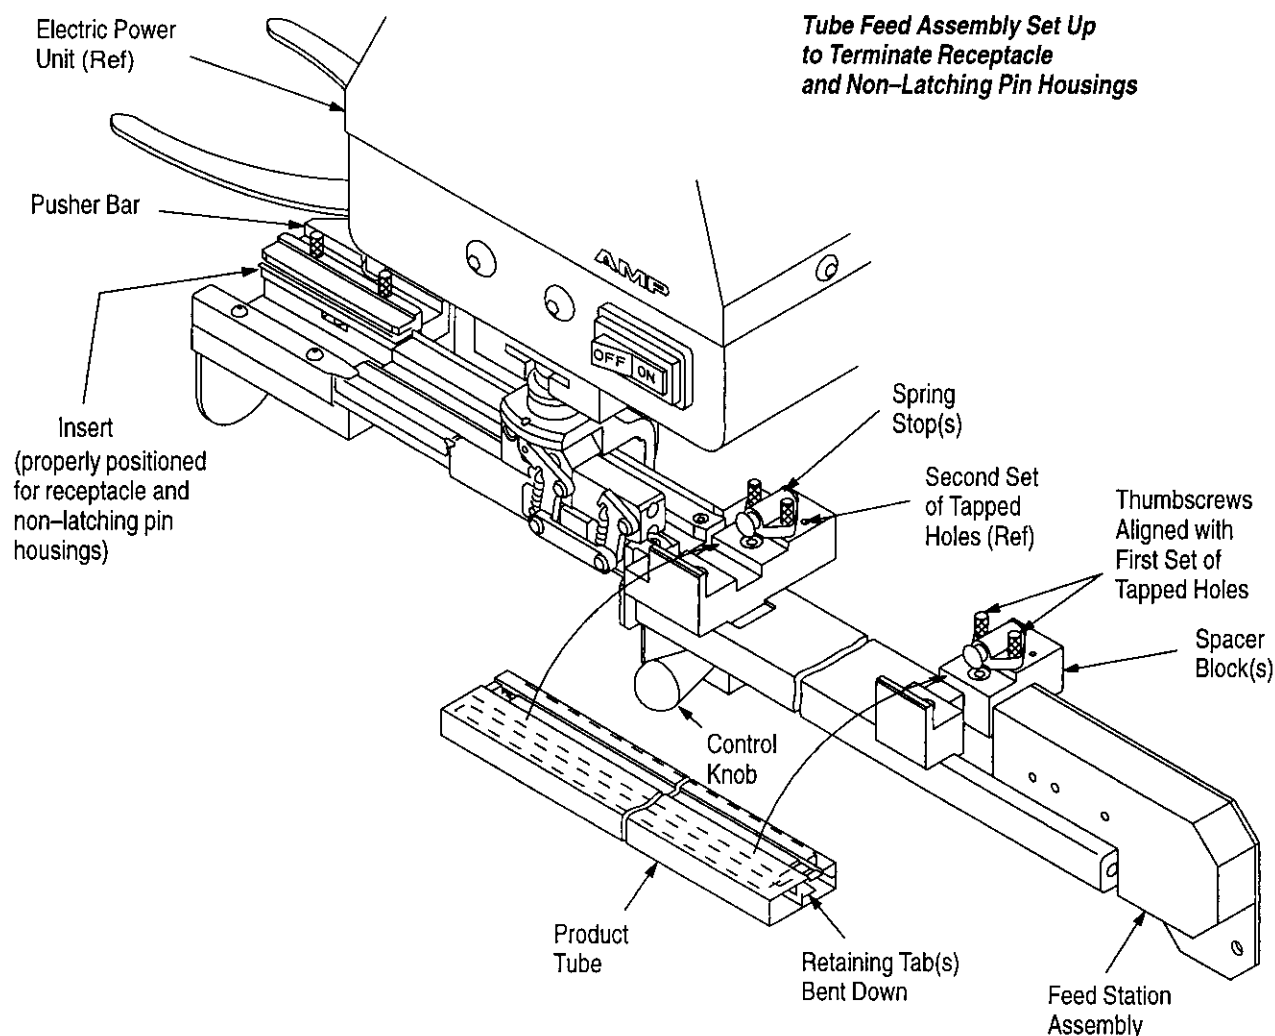

Figure 2
This instruction sheet covers the setup and operation of AMP® MTE Tube Feed Assembly 856675-1 designed to be used with AMP Electric Power Unit 931800-1, as shown in Figure 2. The assembly terminates unstripped wire in the shrouded pin and receptacle contacts of AMPMODU MTE housings and then seats the contacts within the housing. For setup and operation procedures of the power unit, refer to AMP customer manual 409-5746.
3.1. Setup (Figure 2)
A. Receptacle and Nonlatching Pin Housings (Figure 2)
2. Move control knob to the left (toward the seating station) until the latch engages with the sheet metal block at the far end. Place the product tube between the spacer blocks, as shown in Figure 2.
3. Reposition spring stop onto the spacer block, aligning the thumbscrews over the **first** set of tapped holes on the spacer block. See Figure 2.
5. Check position of insert on pusher bar. The insert must be positioned for the appropriate product, as shown in Figure 2. To re-adjust the insert, remove the thumbscrews, rotate the insert to the proper position; then retighten the thumbscrews.
NOTE Adjustment of the feed index adjustment screw requires the removal of feed station assembly 854650-1 (refer to Figure 2). Remove the two screws that secure the feed station assembly to the insertion station assembly and place the feed station assembly to the side.